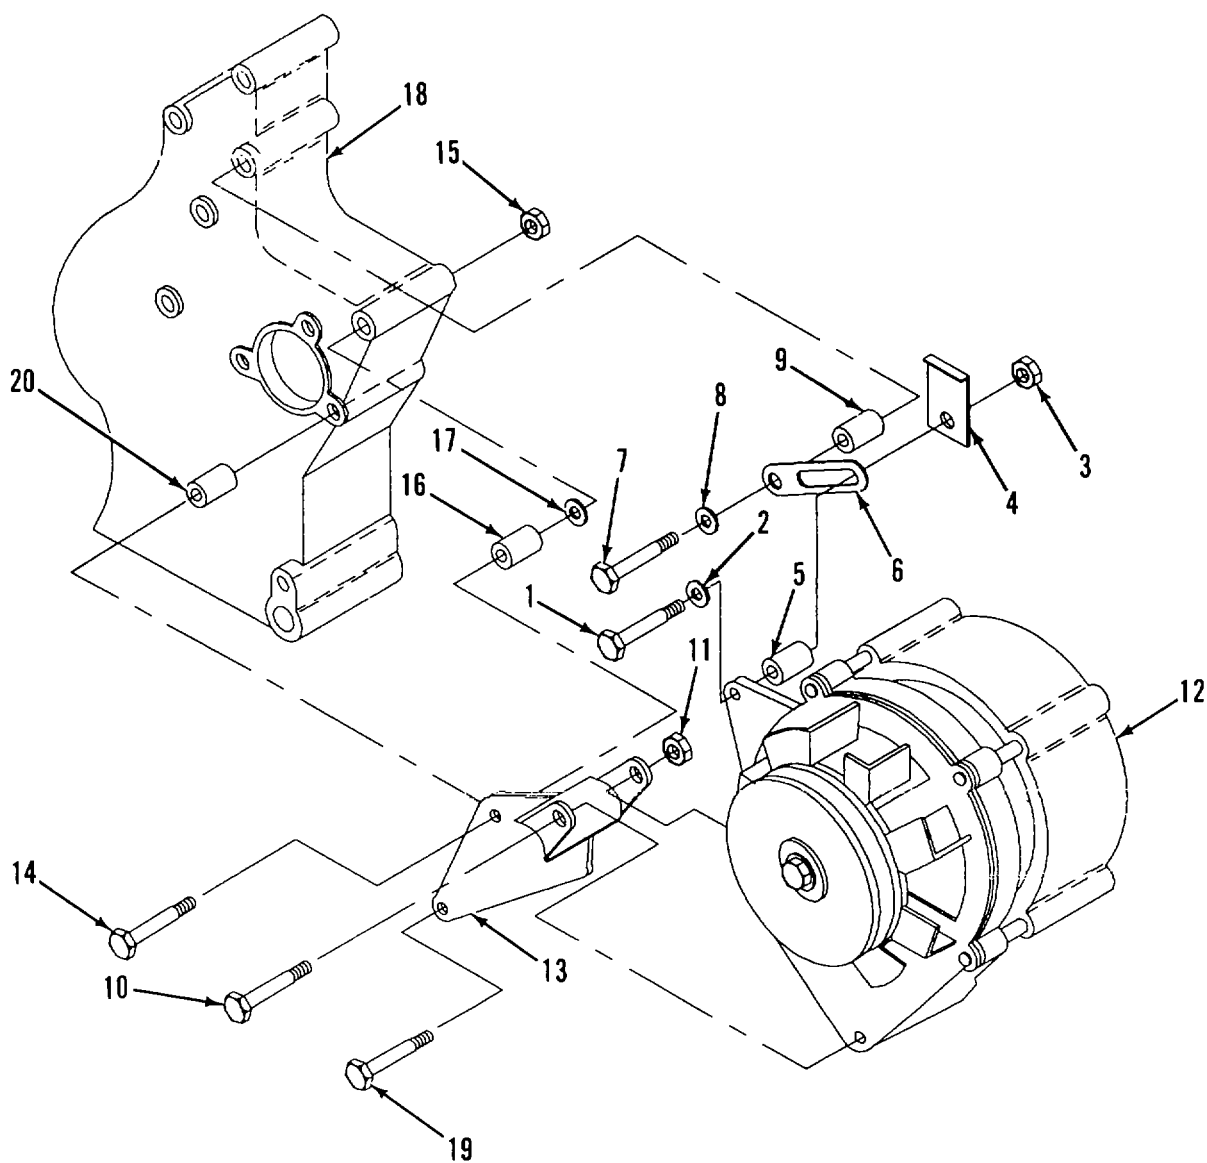

Figure 2-40. Alternator
a. REMOVE. (Figure 2-40)
- (1) Tag and disconnect wiring to alternator (12).
- (2) Remove bolt (1), flat washer (2), nut (3), plate (4), and spacer (5) that secure bracket (6) to alternator (12).
- (3) Remove bolt (7), flat washer (8), spacer (9), and bracket (6).
- (4) Remove bolt (10) and nut (11) that secure alternator (12) to bracket (13).
- (5) Remove bolt (14), nut (15), spacer (16), and flat washer (17) that secure bracket (13) to front cover (18).
- (6) Remove bolt (19), spacer (20), and bracket (13).